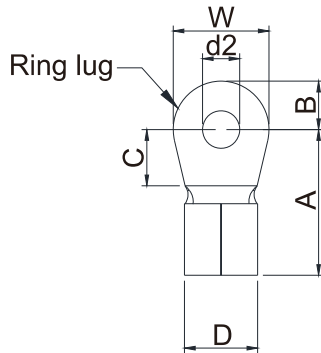
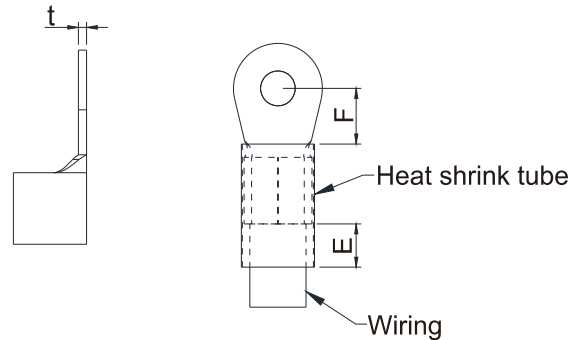

Figure 5-9
Figure 5-10
See figure 5-9 and figure 5-10 for ring lug specifications. For other types of wiring, use the wires that comply with the local regulations.
- After crimping the wire to the ring lug (must be UL and CSA approved R/C (YDPU2)), install heat shrink tubing rated at a minimum of 600V_{AC} insulation over the live part. Refer to figure 5-10 below.